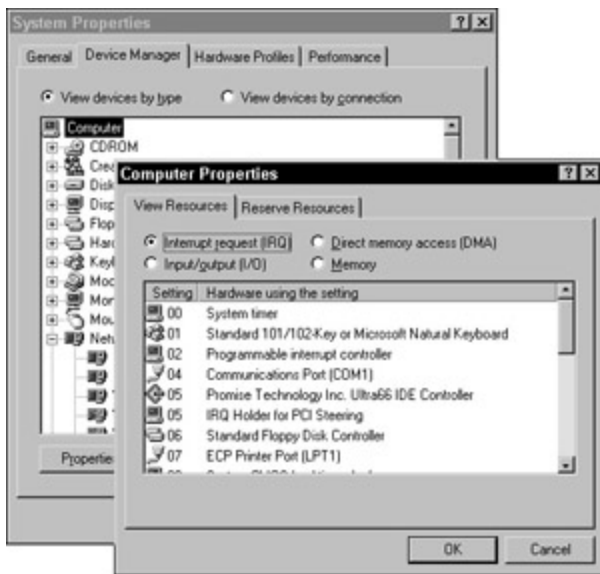

Figure 6-6: The Windows Computer Properties windows lists the IRQ requirements of a PC.
4. From the System Resources display, choose the View Resources tab and click the Interrupt request (IRQ) option to display the IRQ settings, shown in Figure 6-6 .